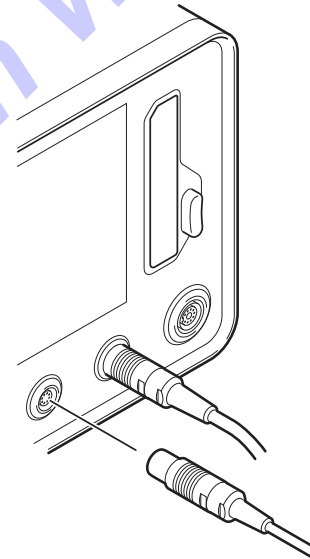

**Figure 121 – Irrigation Bag Removal**
6. Remove the irrigation tubing spike from the port of the collapsible irrigation fluid container or bag (Figure 121).